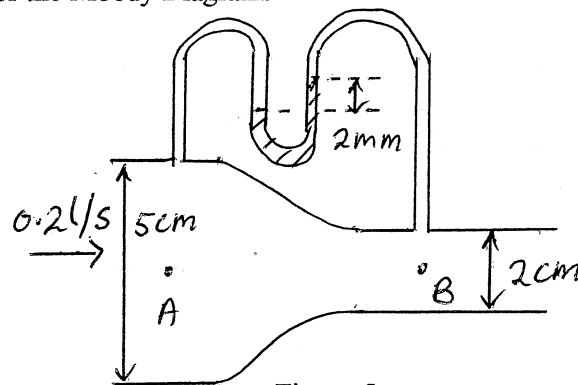

Figure 5
5) A horizontal pipe has a smooth change in diameter, from 5 cm to 2 cm, between points A and B as shown in Figure 5. A U-tube mercury manometer is connected between A and B. When a discharge of 0.2 litres/second flows from A to B the level difference in the mercury manometer is 2 mm, with the lower level shown in the side connected to the point A, as shown in the figure. The density of mercury is  $13,600 \text{ kg/m}^3$  and the density of water is  $1000 \text{ kg/m}^3$ .